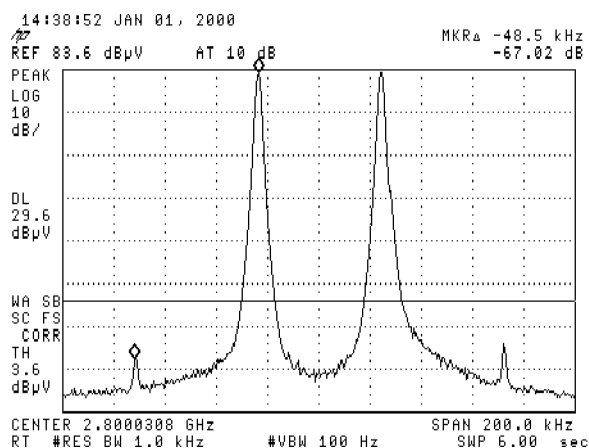

Figure 2-44. Third Order Intermodulation Distortion, HP 8593EM
44. The third-order intermodulation distortion products should appear 50 kHz below the lower frequency signal and 50 kHz above the higher frequency signal. Their amplitude should be less than the display line. See Figure 2-44.
56. Press **MKR →** **MARKER → HIGH**, **More 1 of 3** **More 2 of 3** **MARKER Δ** then set the DISPLAY LINE to a value 54 dB below the current reference level setting. The third-order intermodulation distortion products should appear 50 kHz below the lower frequency signal and 50 kHz above the higher frequency signal. Their amplitude should be less than the display line. See Figure 2-44.